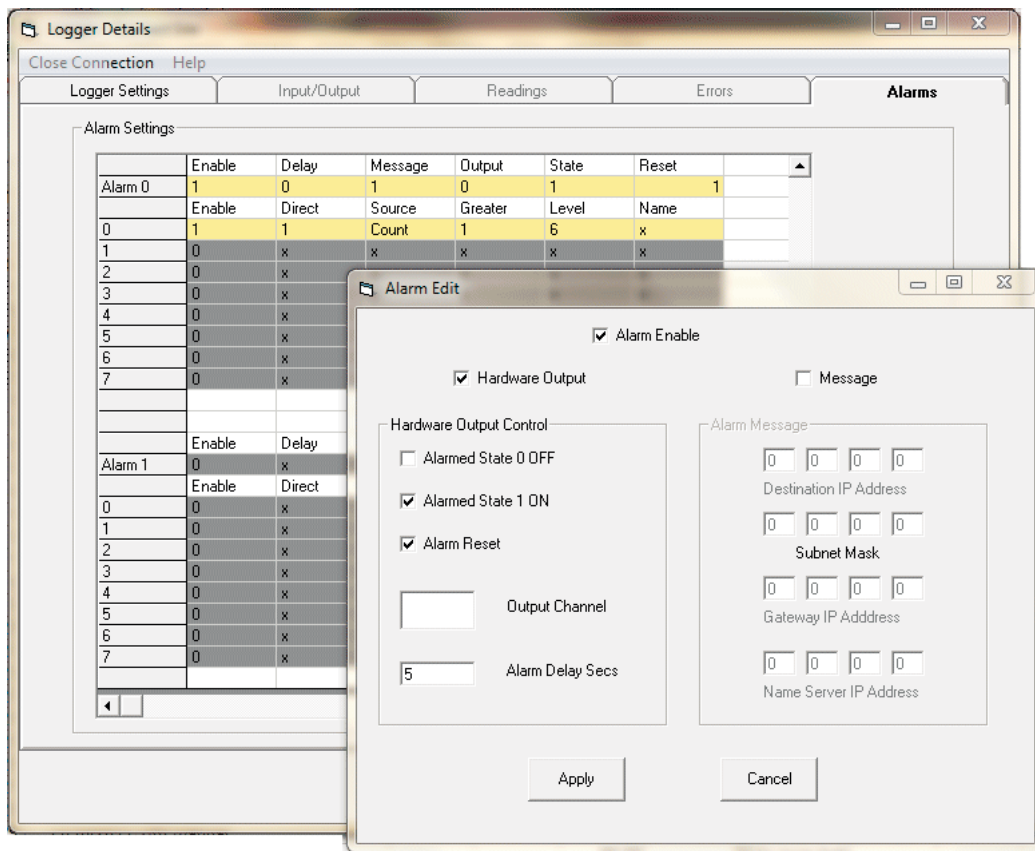

Figure 3.5 Specifying what happens on alarm
1. In the Alarm tab (Figure 3.5) click the channel's number. The Alarm Input box appears.